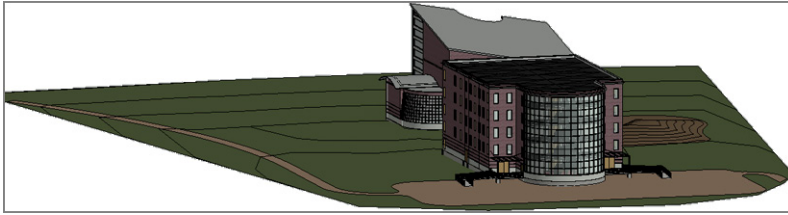

FIGURE 18.13: The sidewalks in 3D
8. Go to a 3D view, and compare yours with Figure 18.13.